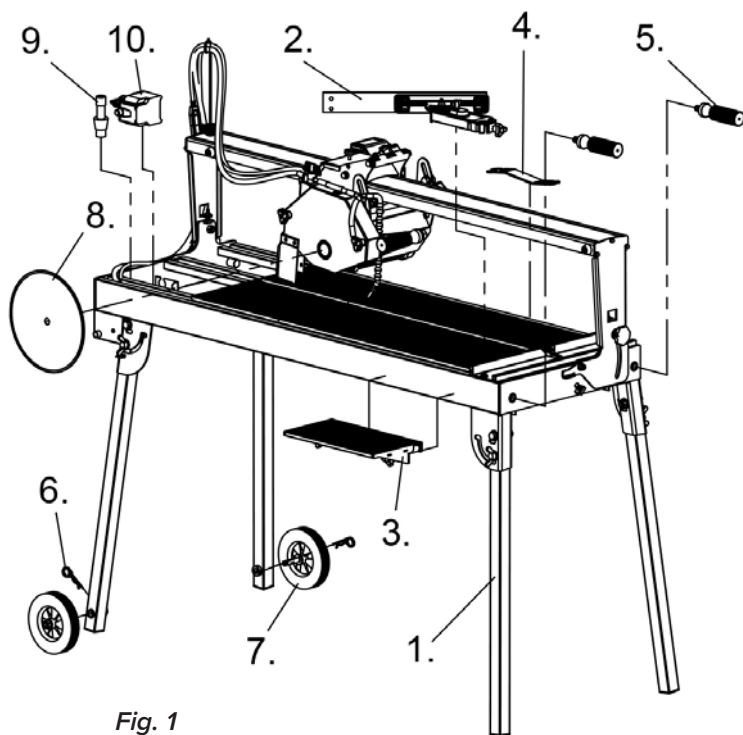
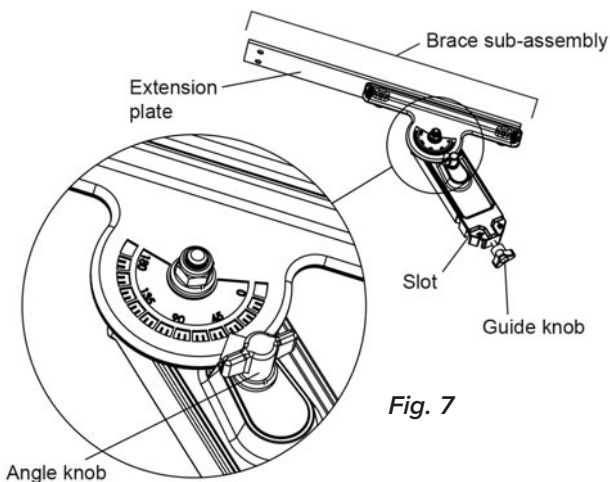

Fig. 1
Fig. 7
2. Remove the detachable wheel assembly and stow it as necessary. (see figure 1 and 3)
1. Attach the detachable wheel assembly as necessary to roll the saw on the ground. (see figure 1 and 3)
2. Insert the slot (see figure 7) on the guide and slide onto the cutting fence as shown in figure 1 and 14.
3. Adjust attachment sub-assembly to the required angle and tighten the angle knob. (see figure 7)
4. Move the adjustable angle guide to the correct position on the table of the saw and tighten the guide knob. (see figure 7)